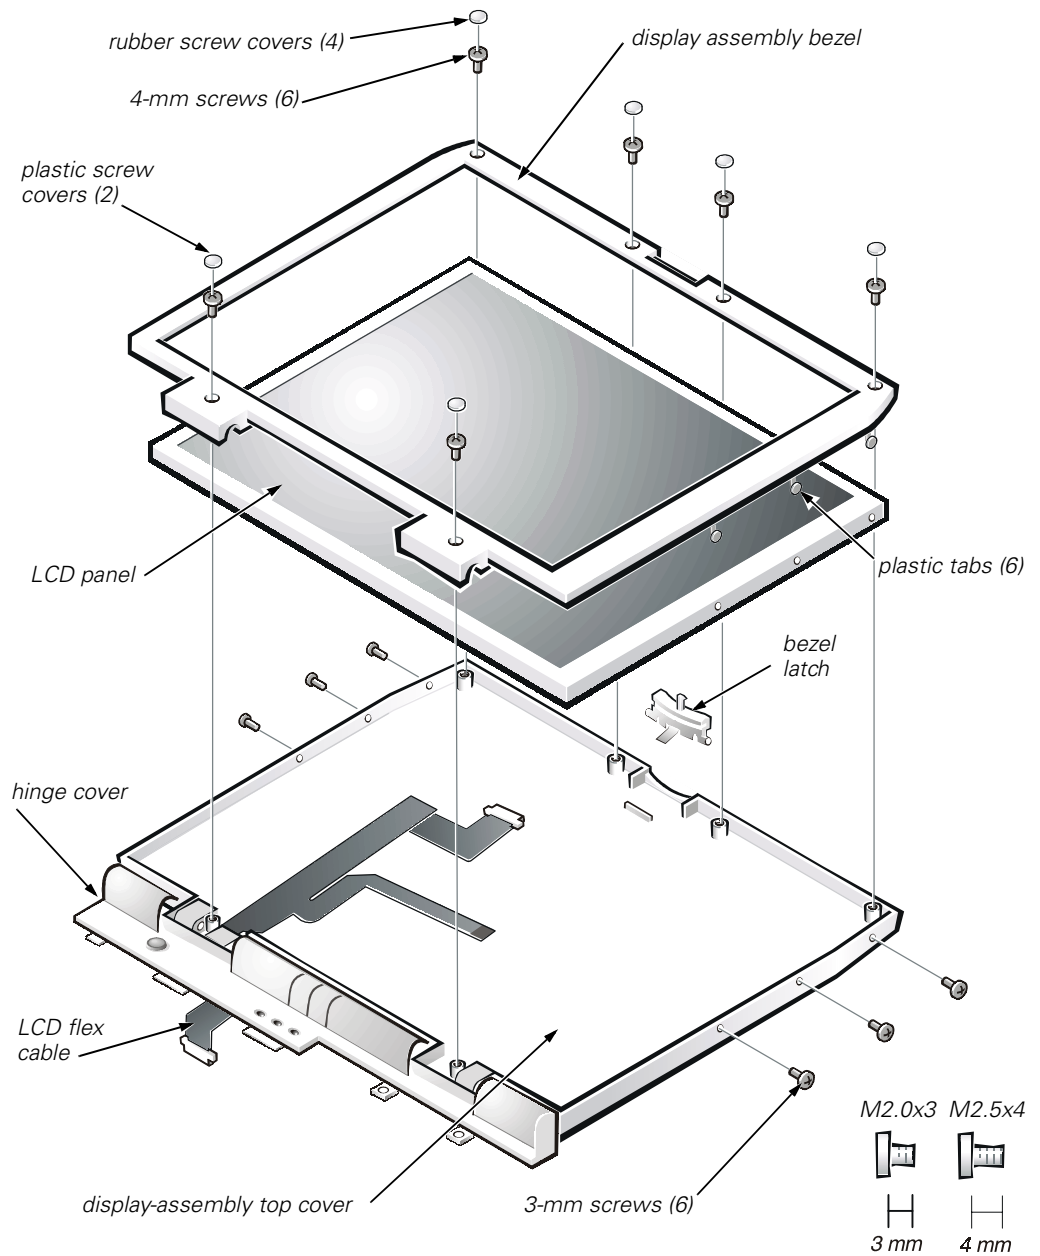

Figure 14. 14.1-Inch Display Assembly Bezel
2. Remove the four 4-mm screws located at the top of the bezel on the front of the display assembly (see Figure 14).
The bezel is secured by three plastic tabs on the left and three plastic tabs on the right side of the display-assembly top cover (see Figure 14).
2. Remove the three 3-mm screws on the left side of the LCD panel and the three 3-mm screws on the right side of the LCD panel (see Figure 14).